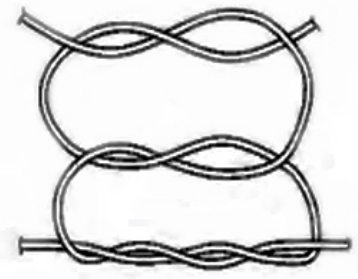

Figure 24. Surgeon's Knot Locking Knot.
5. Tighten the knot with even pressure on the working ends and standing parts (Figure 24).